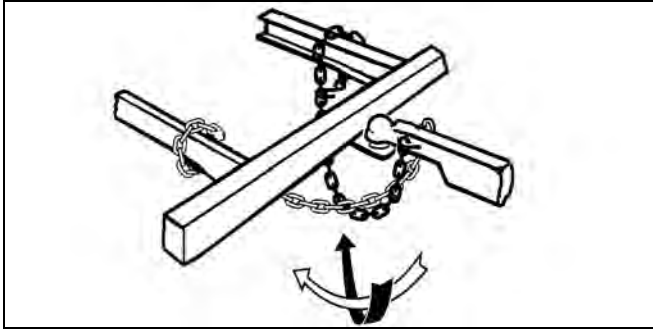

Figure 4-6 - Safety Chain Arrangement W/O Surge Brakes
- Provide enough slack to permit tight turns, but not be close to the road surface to drag. See figure 4-6 or 4-7.